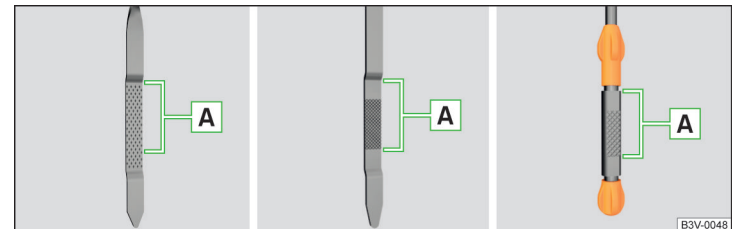

Fig. 199 Principle sketch: Dipstick
Dipstick » Fig. 199
- The oil level must never be above the range  » Fig. 199 - risk of damage to the motor as well as the exhaust system.